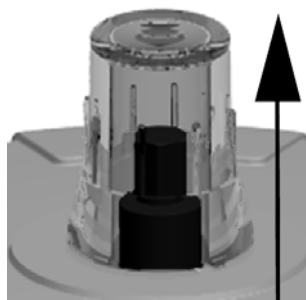

Fig. 20
- ▶ Move the valve into the "open" position, see fig. 20
- ▶ Move the actuator in “open” position, see fig. 20